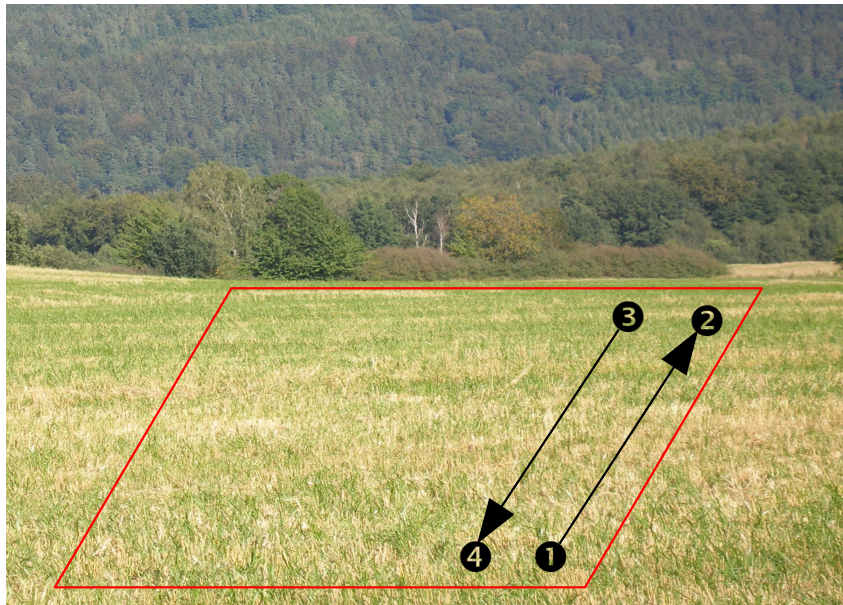
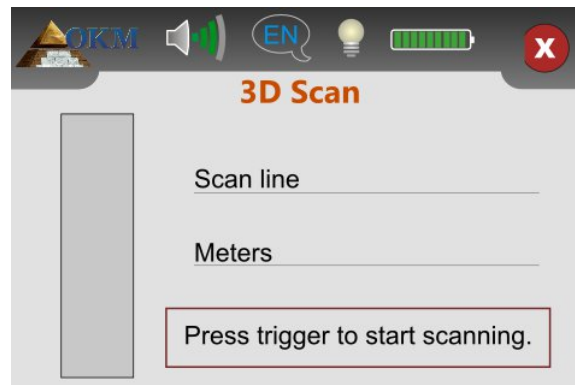

Figure 9.5: Measure area for a survey in mode "3D Scan"
Figure 9.10: Start scanning in operating mode "3D Scan"
As soon as the screen from figure 9.10 appears on the display, the soil reconciliation is finished and the measurement can start.
Position yourself on the beginning of the 1. scanning path, i. e. point ❶ from figure 9.5 on page 58 and hold the probe straight downwards as you already did during the soil reconciliation. Now push the trigger to start the measurement. Walk evenly and with constant speed to the end of the first scan line (point ❷). As soon as the message from figure 9.10 appears on the display again, you should have reached point ❷.
Now you have to go to point ❸ and push the trigger again to measure the second scanning path too. As soon as the message from figure 9.10 appears again, you should have reached point ❹.